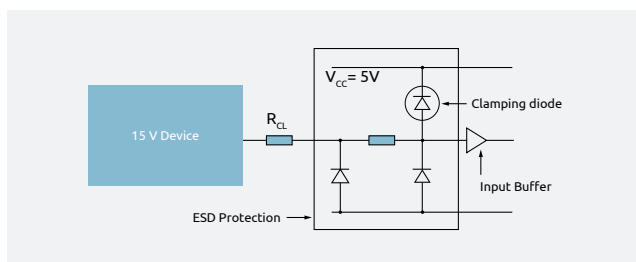

Fig. 28 Clamp diode protected input simplified schematic
- › Clamp diode protected inputs, enables high to low voltage translations, with an additional current limiting resistor (Fig. 28)